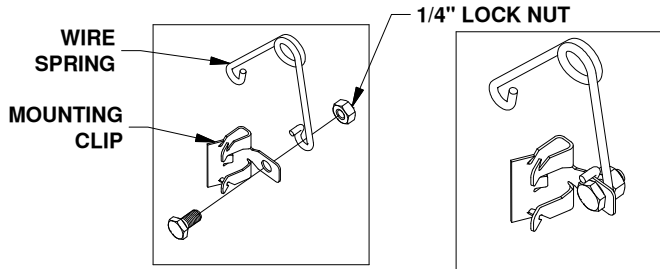
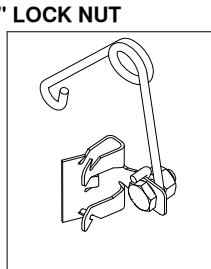

Figure B1:
Figure B2:
- Assemble kit.** Locate the 1/4" cap screw and nut, along with the wire tension spring and mounting clip. Pass the 1/4" cap screw through the mounting clip and the wire spring as shown in Figure B1. Thread the 1/4" lock nut onto the 1/4" cap screw. Tighten the lock nut just enough that the spring will stay in place but will still be able to rotate around the bolt if needed, see Figure B2.